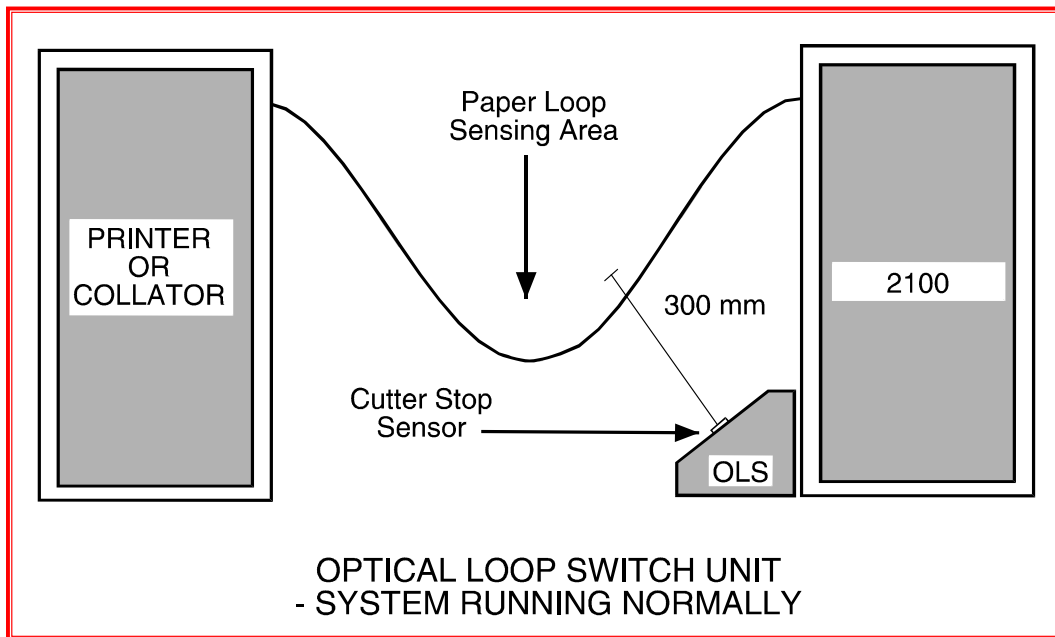

Fig 1.3 Operating States
- The way that the optical loop switch unit controls the paper is illustrated in Fig 1.3. Position the unit centrally between the ancillary units as shown.